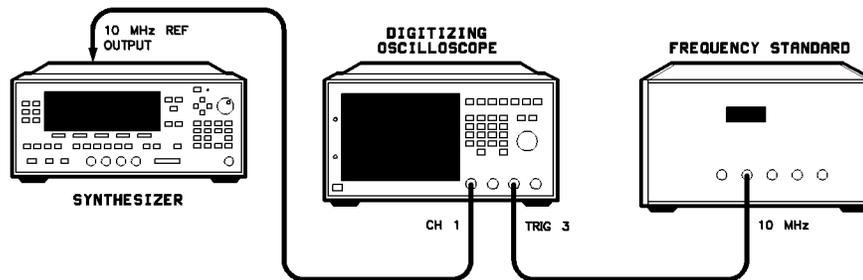

Figure 3-1. 10 MHz Standard Adjustment Setup
1. Connect the equipment as shown in Figure 3-1. Preset all instruments and let them warm up for one hour.